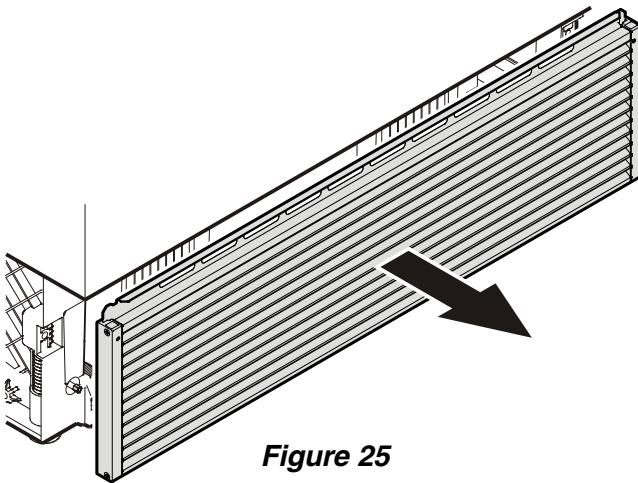

Figure 25
- Open the bottom freezer drawer and remove the ventilation grille by pulling forwards - **Figure 25**. The grille is supported magnetically so no tool is required for removing.